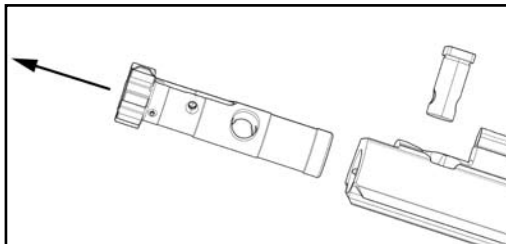

Fig. 28 – Slide the Bolt Head out
- f. Slide the bolt head from the front of the bolt carrier (Fig. 28).